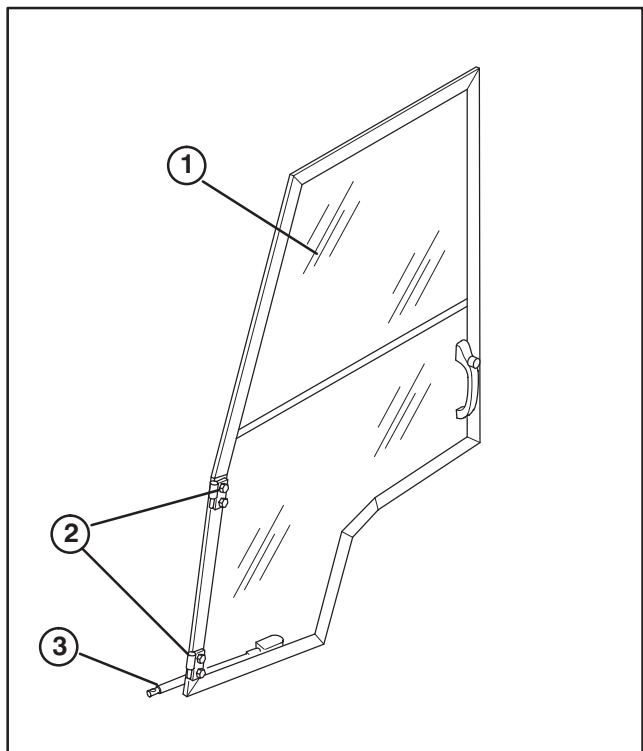

Figure 18
1. Lift door (right or left) and install hinge pins into hinge receptacles on appropriate cab side frame (Fig. 18).
3. Insert rod end of door spring assembly between bracket tabs on cab side frame (Fig. 18).